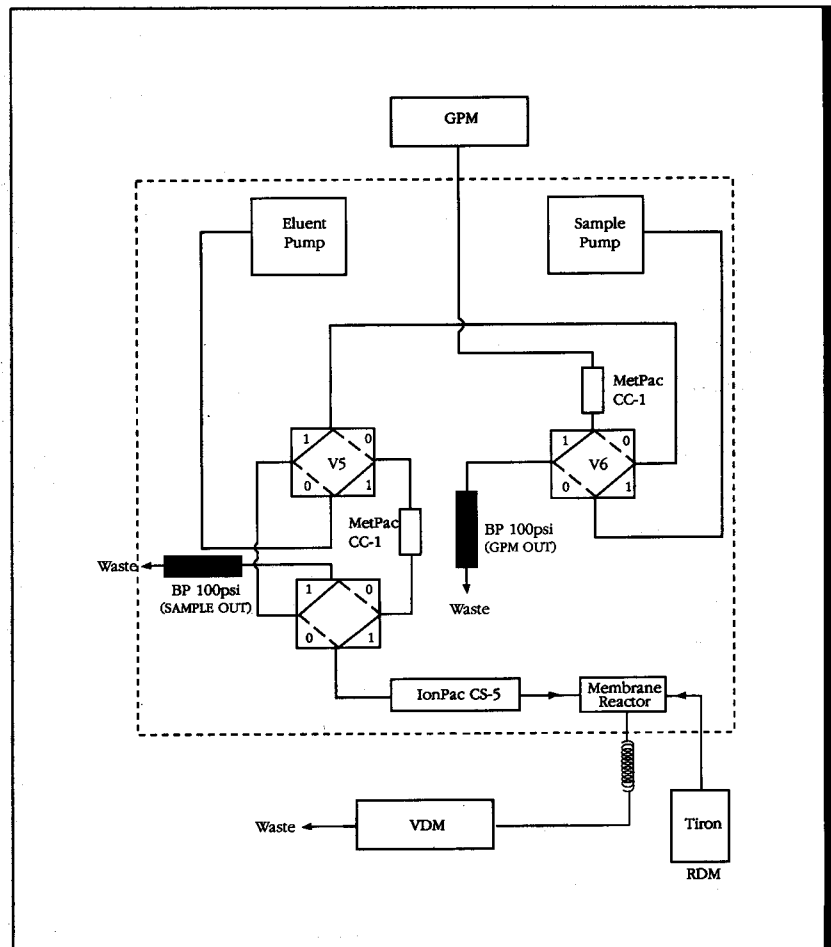

FIGURE 1. ALUMINUM BY CHELATION ION CHROMATOGRAPHY VALVE DIAGRAM
The valve diagram (Fig. 1) shows the components of the chelation ion chromatography system. Three pumps are required to perform chelation ion chromatography. A gradient pump (GPM) is used to manage the chelation concentration eluents and perform timing and valve switching functions. A pulse-dampened Dionex QIC Pump (DQP) is used to pump the analytical eluent (0.75 M HCl), and a second DQP is used for sample loading. Two valves (four-way, double-stack) are required for running the chelation ion chromatography system. The Sample Concentration Module (SCM) consists of two DQPs, a pulse damper, and valves required for chelation ion chromatography. A “gradient” chelation ion chromatography system consisting of two GPMs, a DQP, and two valves may also be used to perform this analysis.
2. Locate the DQP with a pulse damper in the left rear corner of the SCM. This DQP will be used to pump 0.75 M HCl as the analytical eluent and is henceforth referred to as the “eluent pump”. The second DQP located in the right rear of the SCM is the sample loading pump. Locate these pumps in the SCM and in the plumbing diagram (Fig. 1).
4. Using Figure 1 as a guide, replumb the SCM with the tubing removed in step 1. Only two lines should enter the SCM through the front panel, the GPM IN line and the line out to the VDM. All other connections should be made through the labeled bulkheads on the rear panel.
5. Connect a line from the GPM through the front panel of the SCM. This should run to a MetPac CC-1 in the SCM and then to the proper port of valve 6 as shown in Figure 1. Note that there are two MetPac CC-1 columns used in this method. The MetPac CC-1 connected to the line from the GPM to the SCM serves as a trap column. Its function is to trap residual metals from the ultrapure ammonium acetate. The trap column should be cleaned after approximately 20 L of 2.0 M ammonium acetate is used. (To clean the MetPac CC-1 trap column, elute with 2.0 M HNO₃ at 1.0 mL/min for 10 min. Regenerate the trap column with 20 mL of 2.0 M ammonium acetate).
7. Two waste lines must be connected to the bulkheads on the rear panel of the SCM. One waste line from each of the two valves (see Fig. 1) connects to the waste bulkheads. A 100-psi back-pressure regulator (P/N 039760) should be attached to each of these two waste lines. Connect the waste line from valve 6 (far right) to the “GPM OUT” bulkhead on the rear panel. The other waste line (from valve 5) is connected to the bulkhead labeled “SAMPLE OUT”. The back-pressure regulators may be installed either inside the SCM before the bulkhead, or at the terminus of the waste line.
GPM Program: Refer to valve diagram (Fig. 1)